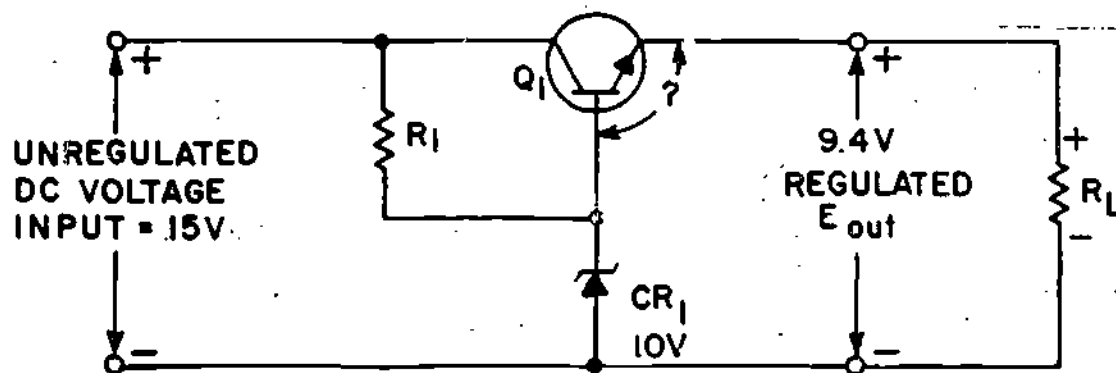

FIGURE 9
Refer to the schematic shown in figure 9 when answering the questions in this test frame.
1. The component which senses changes in output voltages in Figure 9 is _____.